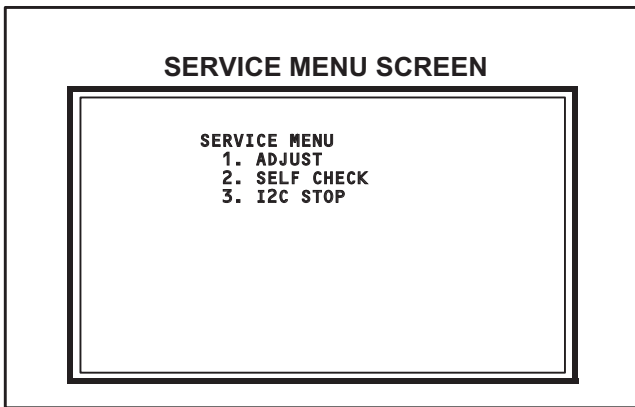

Fig.1
- (1) Set to "0 minutes" using the [SLEEP TIMER] key.
- (2) While "0 minutes" is displayed, press the [VIDEO STATUS] key and [DISPLAY] key simultaneously, then enter the SERVICE MODE (Fig.1)